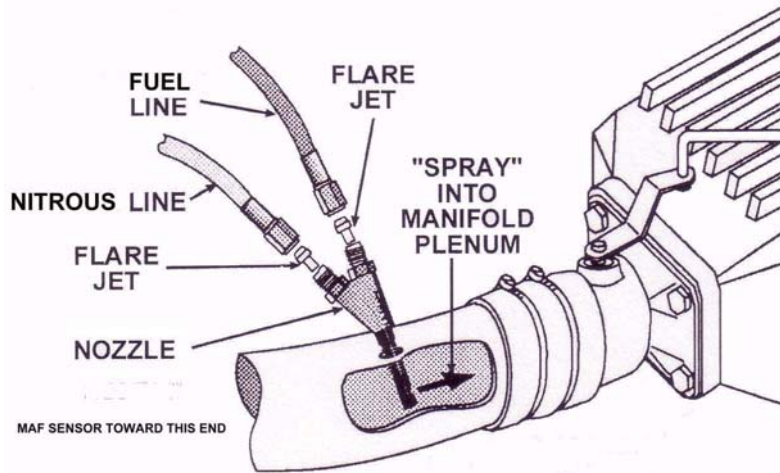

FIG. 5
- 1) Select the proper nitrous and fuel jets (15). Place the desired jets into the nozzle, making sure that the jets are inserted into the correct locations, as marked in figure 5 Check the jet cart for correct jet sizes.
- 2) Connect and tighten the blue fitting side of the 2 ft. 3AN hose (10) to the nozzle as shown in figure 5
- 3) Connect and tighten the red fitting side of the 2 ft. 3AN hose (10) to the nozzle as shown in figure 5